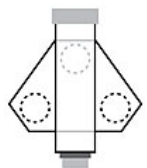

Figure 4. Automatic level telescope alignment in step (1).
(1) Now align the telescope so that it is pointed along a line that passes through one of the three leveling screws and bisects the line connecting the two remaining leveling screws (see Figure 4). (2) Once you've made sure that the bubble is centered, turn the telescope, releasing the horizontal motion screw if necessary, so that the telescope is now pointing 180°. Any movement of the bubble from the center indicates twice the error in the adjustment of the bubble. Now find the adjusting screws (they may be underneath or on top of the vial) and the proper tool for turning them--generally there will be three screws. Using the same principle as when you level the circular bubble with the leveling screws, turn the adjusting screws until you bring the bubble halfway back from its position to the center. Now repeat steps (1) and (2) above to see if the process of adjusting has caused the instrument to move off level. If when